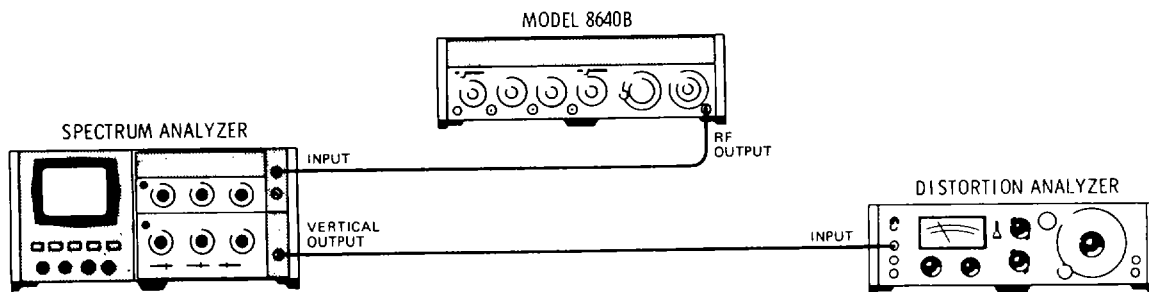

Figure 4-19. AM Distortion Test Setup.
1. Connect equipment as shown in Figure 4-19 after setting Signal Generator's controls as follows: